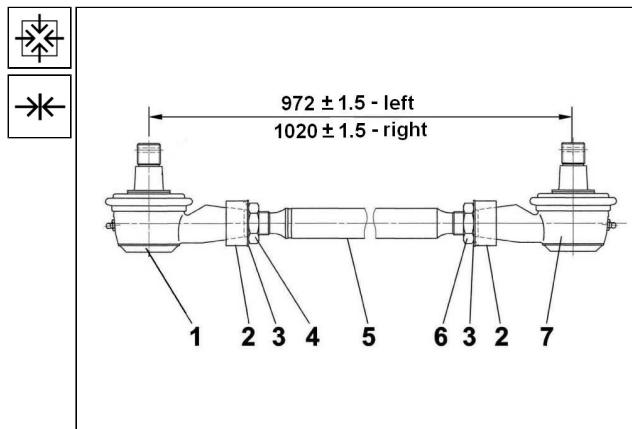

Fig. 10.51 Steering rod assy - assembly
6. Adjust the length of RH and LH steering rods and position of ball joints as per (See Fig. 10.51).